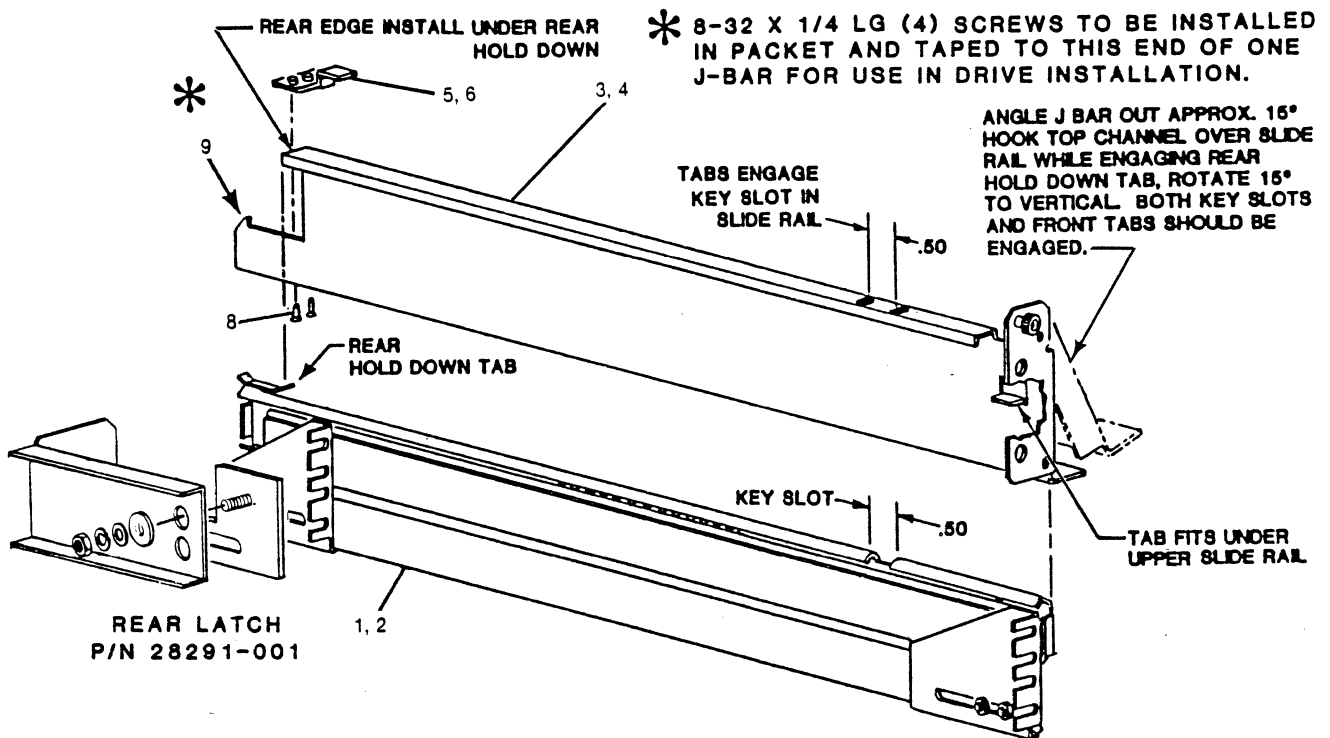

Figure 6-4. Disk Drive Installation
5. Install four screws (8-32 \times 1/4 lg), two each side to secure the disk drive in place. (See Figure 6-4B.) Last refer to Figure 6-4 and install rear latch P/N 28291-001 to each drawer J-bar.